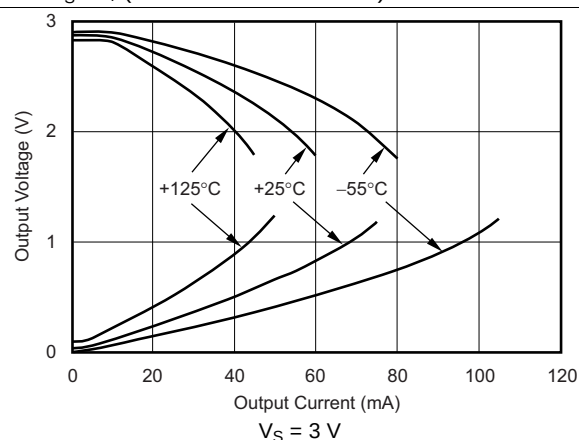
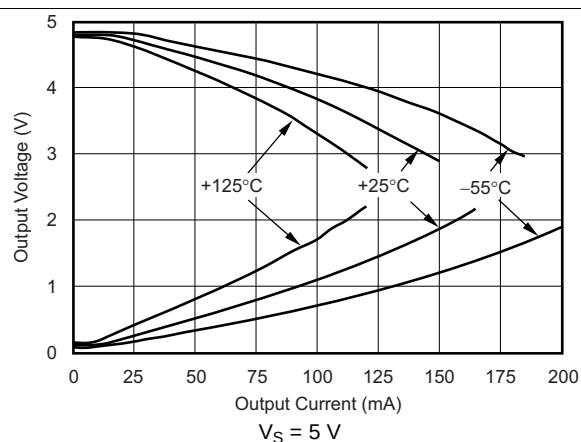

图 20. Output Voltage Swing vs Output Current
图 22. Output Voltage Swing vs Output Current
(1) See typical characteristic curves, *Output Voltage Swing vs Output Current* (Fig. 20 and Fig. 22).
(2) Specified by design.
A class AB output stage with common-source transistors achieves rail-to-rail output. For high-impedance loads ($> 200 \Omega$), the output voltage swing is typically 100 mV from the supply rails. With 10- Ω loads, a useful output swing is achieved while maintaining high open-loop gain. See the typical characteristic curves, *Output Voltage Swing vs Output Current* (Figure 20 and Figure 22).
The OPAx354 output stage supplies a continuous output current of ± 100 mA and yet provide approximately 2.7 V of output swing on a 5-V supply, as shown in Figure 30. For maximum reliability, TI does not recommend running a continuous DC current in excess of ± 100 mA. See the typical characteristic curves, *Output Voltage Swing vs Output Current* (Figure 20 and Figure 22). For supplying continuous output currents greater than ± 100 mA, the OPAx354 may be operated in parallel, as shown in Figure 31.